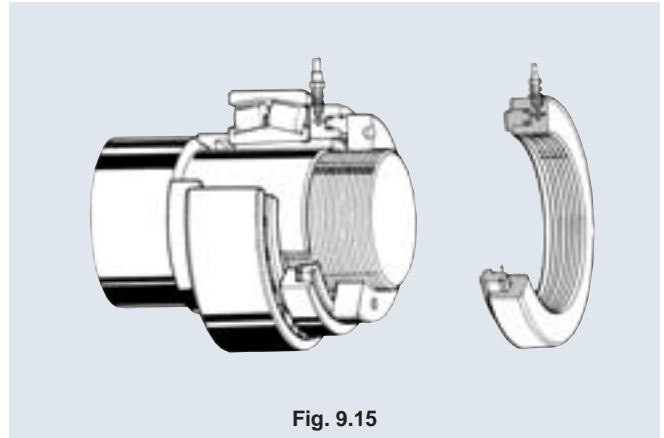

Fig. 9.15
- (7) If it is difficult to tighten a large bearing by manual force, use a hydraulic nut or ram for easier assembly. (See **Fig. 9.15**.)